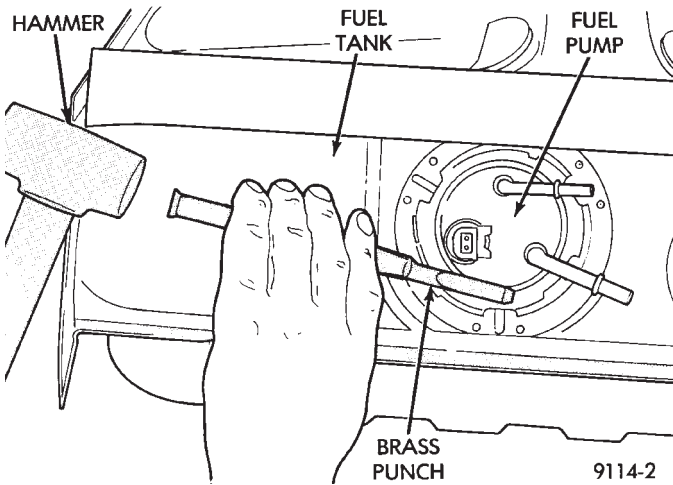

Fig. 9 Fuel Pump Service
- (1) Using a hammer and a brass drift punch carefully tap lock ring counter clockwise to release pump (Fig. 9).
- (2) Remove fuel pump and O-ring seal from tank. Discard old seal.